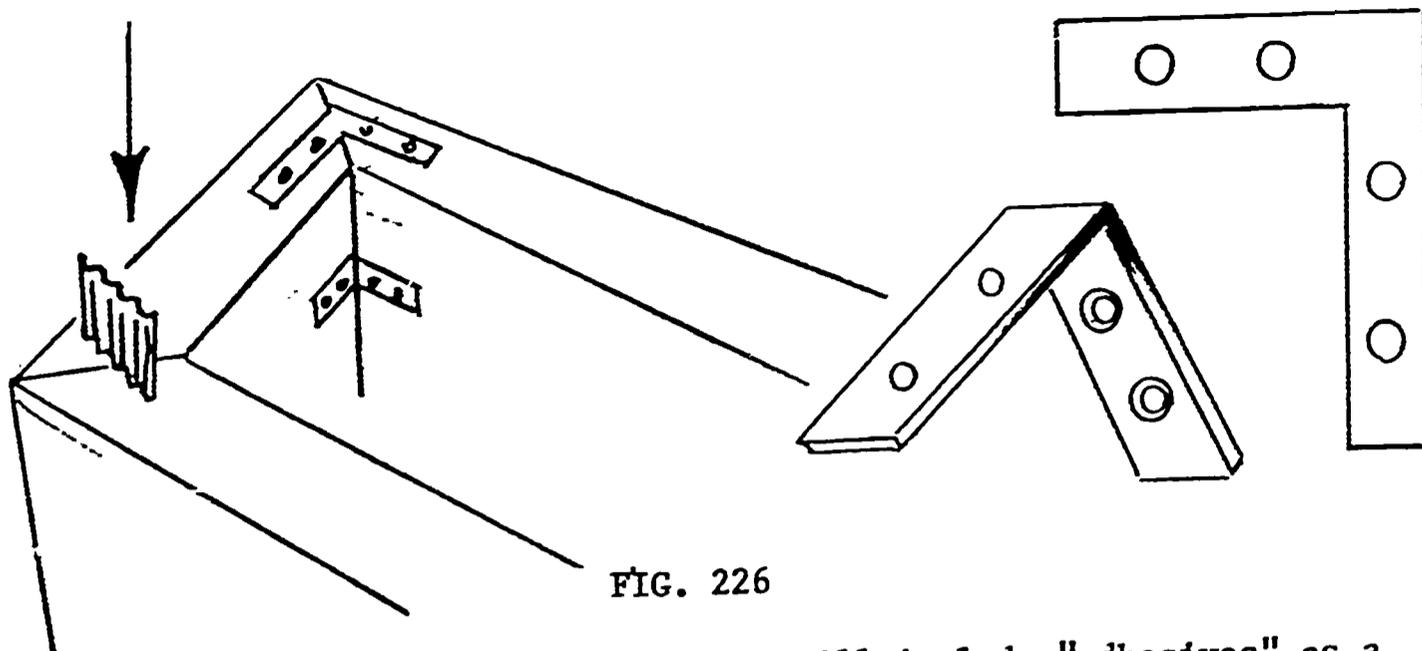

FIG. 226
i. Corner irons and corner brackets are the most common type of special joining devices. See figure 226. One needs only to glance in a well stocked hardware department to see the wide variety of such items. Brackets and irons are used to strengthen corners and butt joints. Where the bracket shows, a fancy type should be used.